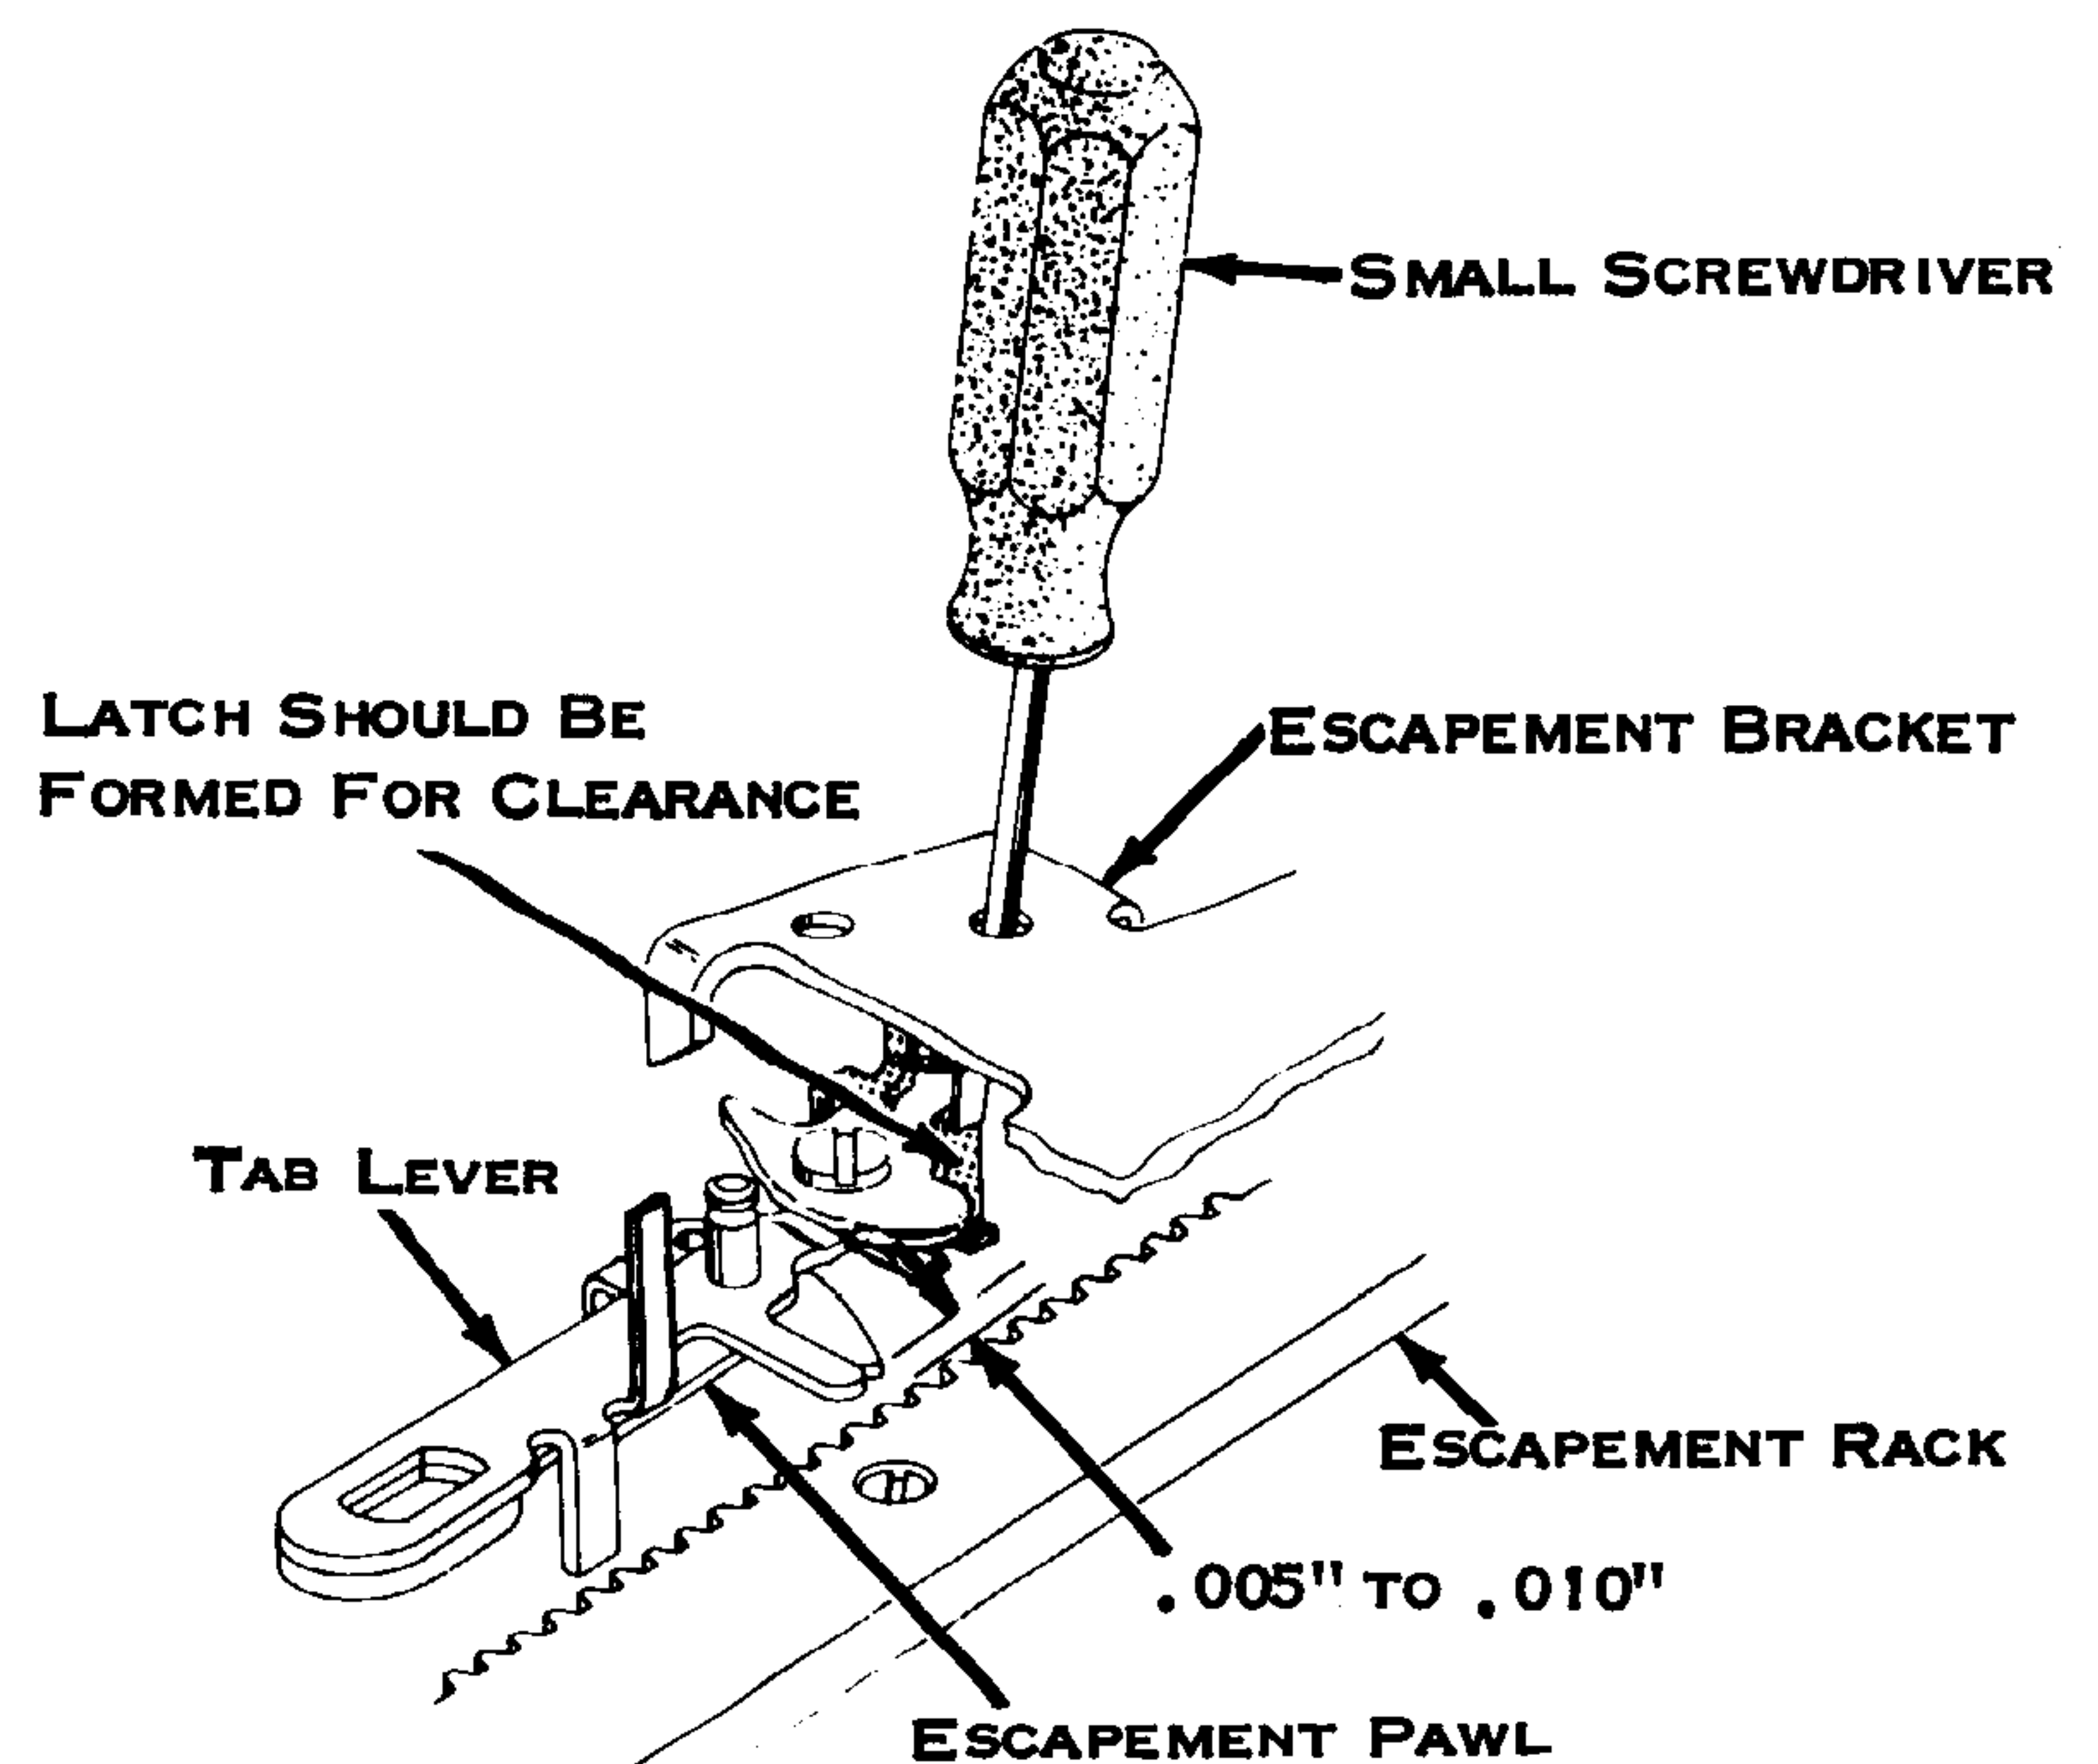

Figure 167. Pawl Clearance
4. Pawl Clearance (Fig. 167) - The upright lug of the tab latch should be formed forward or back so the tip of the escapement pawl clears the escapement rack teeth by .005" to .010" when the tab lever is latched to the rear.